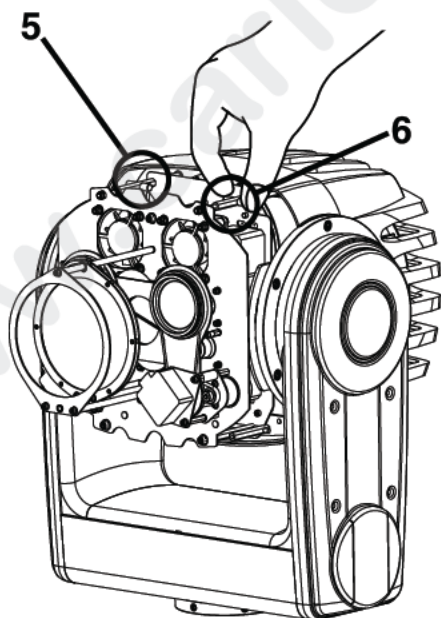

Fig. 3
3. Unscrew the two threaded pins (5)(6) as shown in Fig.3